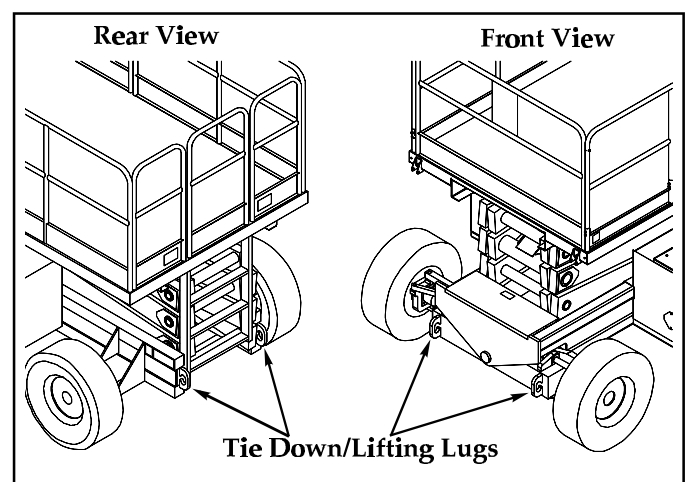

Figure 7: Transporting Work Platform
1. Secure straps to chassis tie down/lifting lugs only (Figure 7).
2. Secure the work platform to the transport vehicle with chains or straps of adequate load capacity attached to the chassis tie down/lifting lugs (Figure 7).